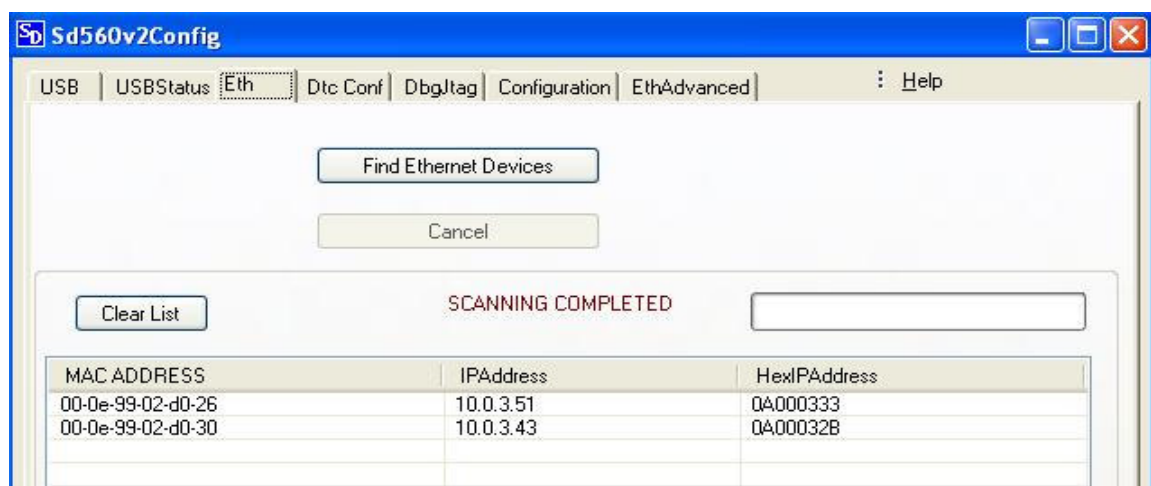

FIGURE 27: Sd560v2Config Eth Tab
- Click on the 'Find Ethernet Devices' button. The results are as shown in figure 27 below.